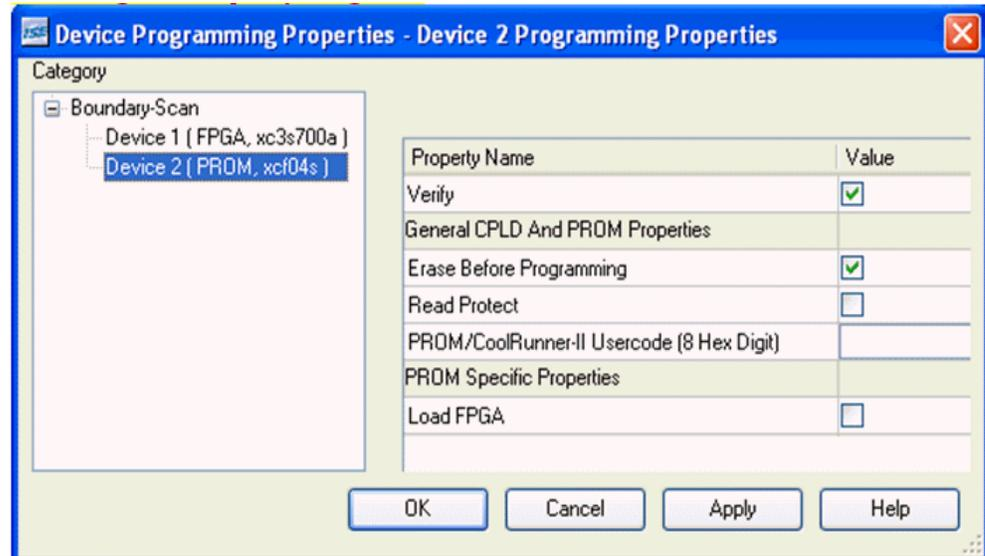

Figure 7-8: Program Options for XC3S700A Device
- The Device Programming Properties Dialog Box appears (see Figure 7-8).